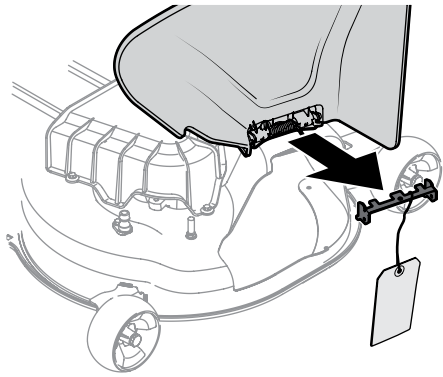

Figure 2-12
- Holding the chute deflector fully upward, remove the shipping brace. Lower the chute deflector and discard the shipping brace. See Figure 2-12.